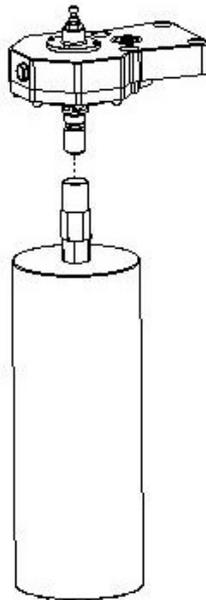

Fig. 11. Drill bit positioned to be fitted on the spindle unit - ST2.
2. Thread the drill bit onto the spindle unit. (see fig. 11).